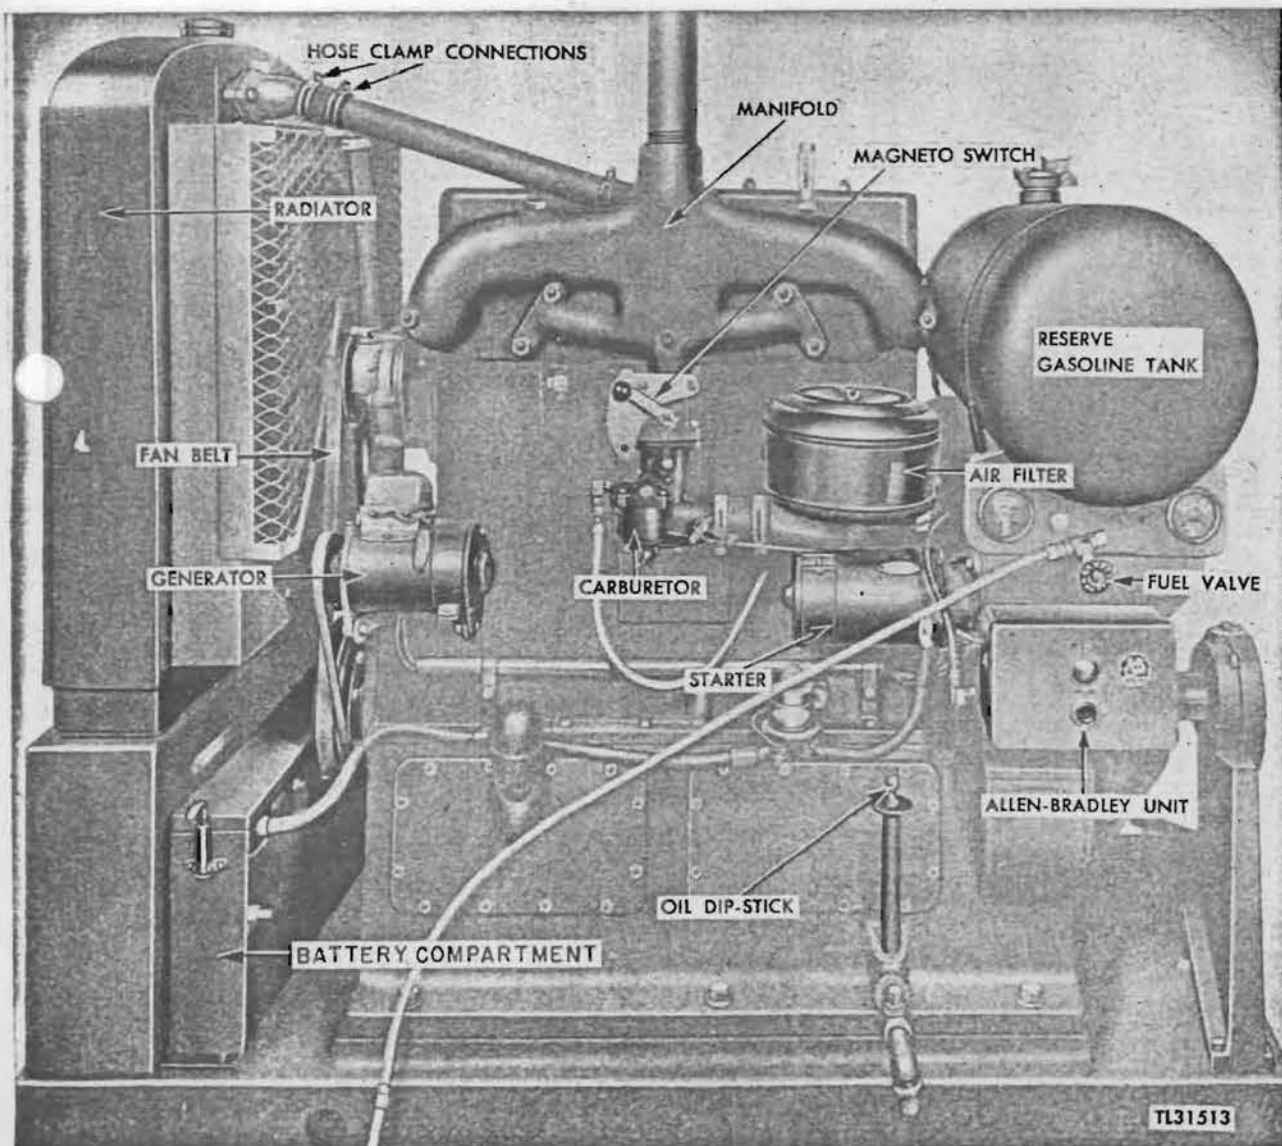

Figure 155. Le Roi gasoline engine, right side.
a. EQUIPMENT CAUTION. (1) When draining water from the radiator take care to prevent spilling water on the battery compartment.
(2) Never use the flexible gas line to drain the water.
b. LOCATION. The cooling system consists of the radiator, fan and water pump assembly, thermostat, water jackets and associated hoses and couplings. (See figs. 155 and 157.)
(1) The radiator for leaks.
(2) The radiator mounting including the radiator grill guard. Check to see that they are secure.
(3) The hose and clamps. (See fig. 155.) Look for leaks and check the hose condition for deterioration and the clamps for corrosion and tightness.
(4) The fan belt. Check for tears, frayed edges, split belt, and proper adjustment.
(5) The fan guard for tight mounting.
a. SAFETY PRECAUTIONS. Do not blow or suck on any gas line to clear the line. Gasoline may contain tetraethyl lead. This is a deadly poison. (See item 102.)
c. LOCATION. The fuel system consists of the fuel pump, the gas lines, and the carburetor. The gas lines lead from the fuel pump to the cut-off valve, from the fuel pump to the carburetor, from the cut-off valve to the reserve tank, and to the gas drum. (See figs. 155 and 157.)
(1) All fuel line connections for leaks.